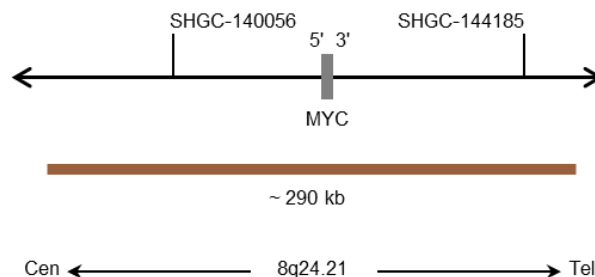

Fig. 1: SPEC MYC Probe map (not to scale)
- Digoxigenin-labeled polynucleotides (~1.8 ng/ μ l), which target sequences mapping in 8q24.21* (chr8:128,596,776-128,887,929) harboring the MYC gene region (see Fig. 1).